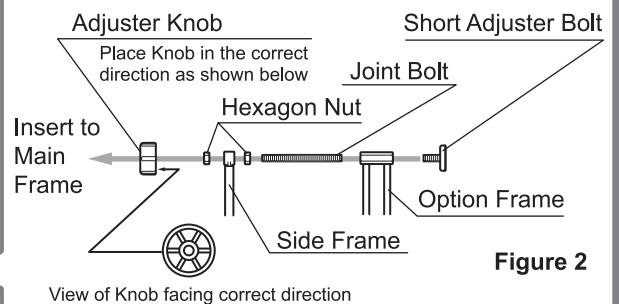

Figure 2
- 1 Assemble a Joint Bolt and a Short Adjuster Bolt on each end of the Option Frame as shown in Figure 2.
- 2 Slide a Hexagon Nut, a Side Frame, another Hexagon Nut and an Adjuster Knob onto the Joint Bolt, in this order, as shown in Figure 2.